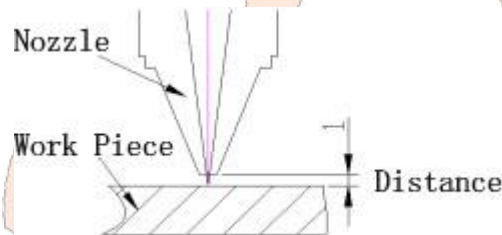

Figure 4-15 Distance Schematic Diagram of Nozzle and Work Piece
1. The distance from nozzle to work piece is as shown in Figure 4-15; too short distance will result in collision of sheet metal and nozzle, and too long distance will result in gas diffusion, causing many residues at the cutting bottom surface.